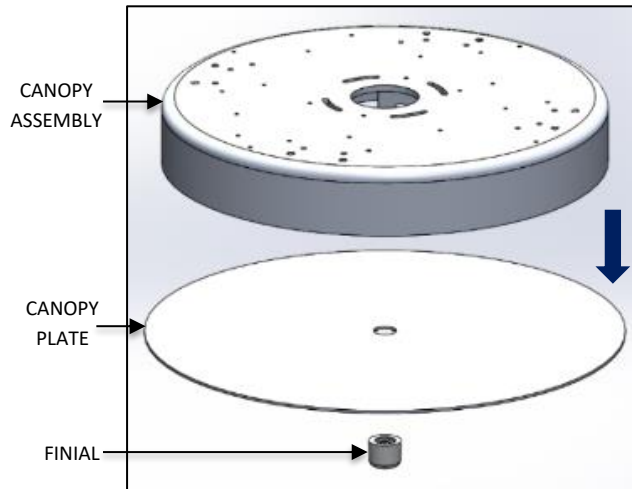

FIG. 11 – CANOPY DIS-ASSEMBLY
9. Dis-assemble the FINIAL and the CANOPY PLATE from the CANOPY ASSEMBLY as shown in FIG. 11 below.